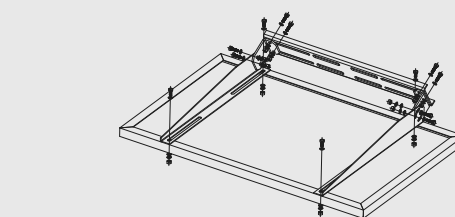

figure 1
Step1. Attach the PV module to the mounting bracket using the nuts, bolts, washers, and lock washers provided. See figure 1. Caution: If additional holes on the frame of the PV module are needed, great care must be used when drilling. Damage to the module can easily occur rendering it useless. You may find it helpful to lubricate the nut and bolt to facilitate easy removal at a later date.